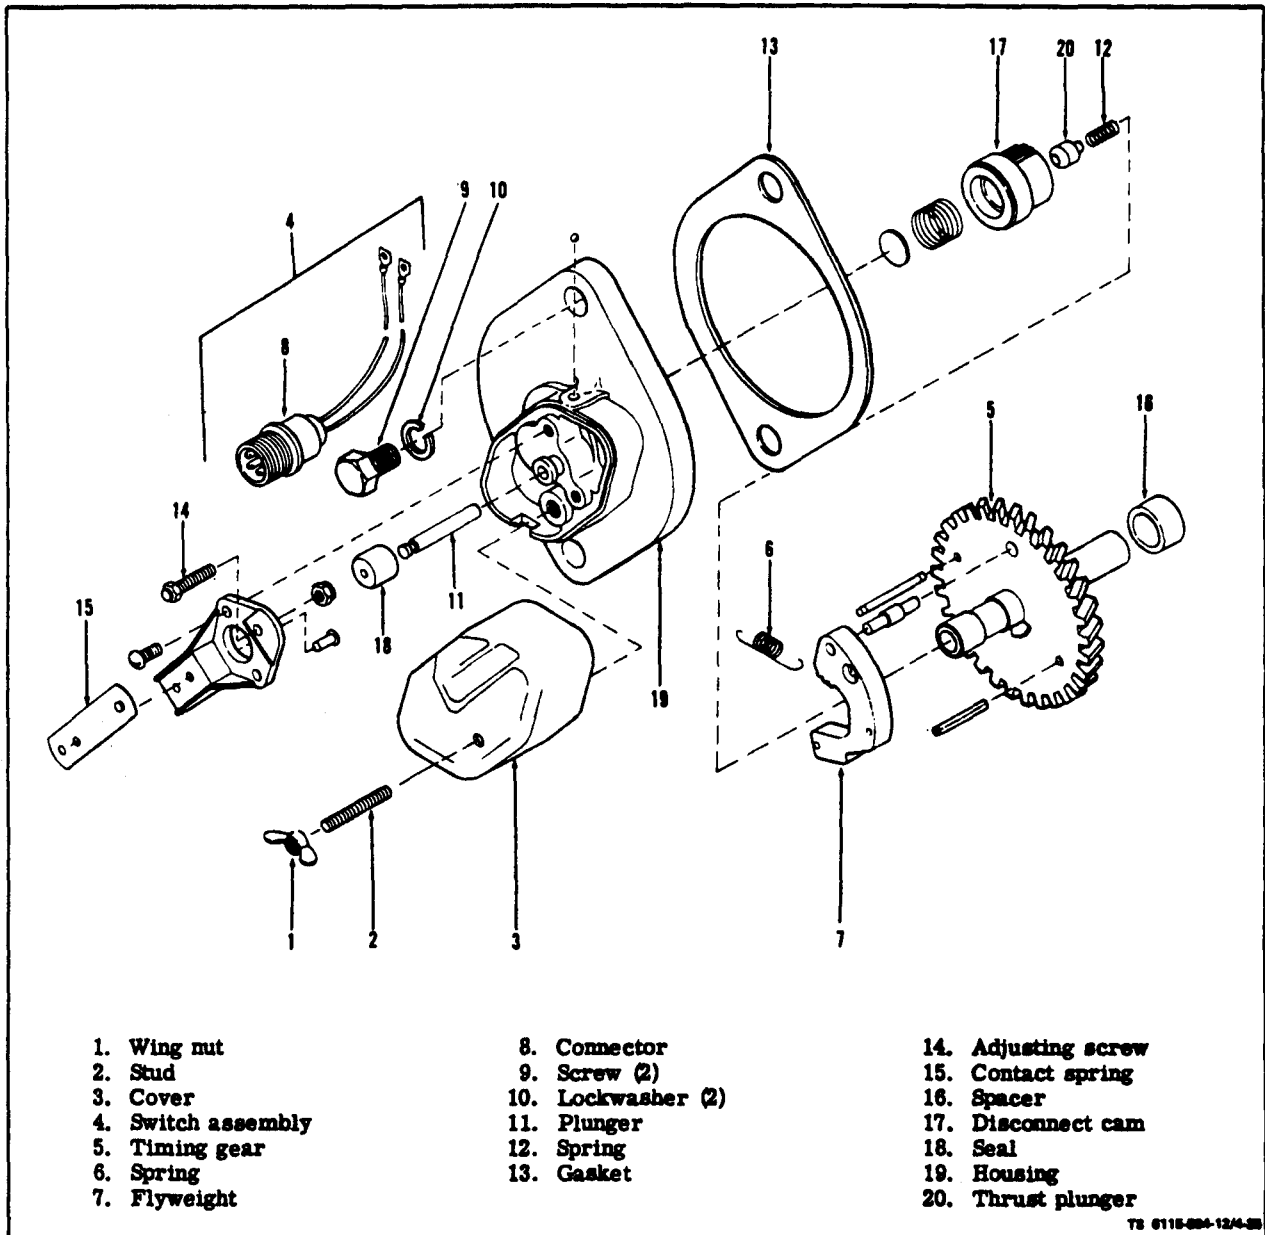
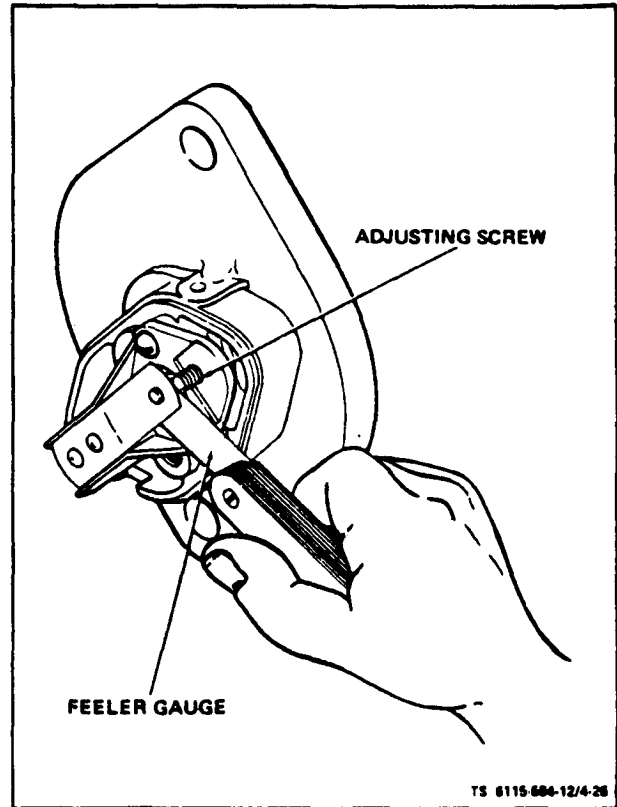
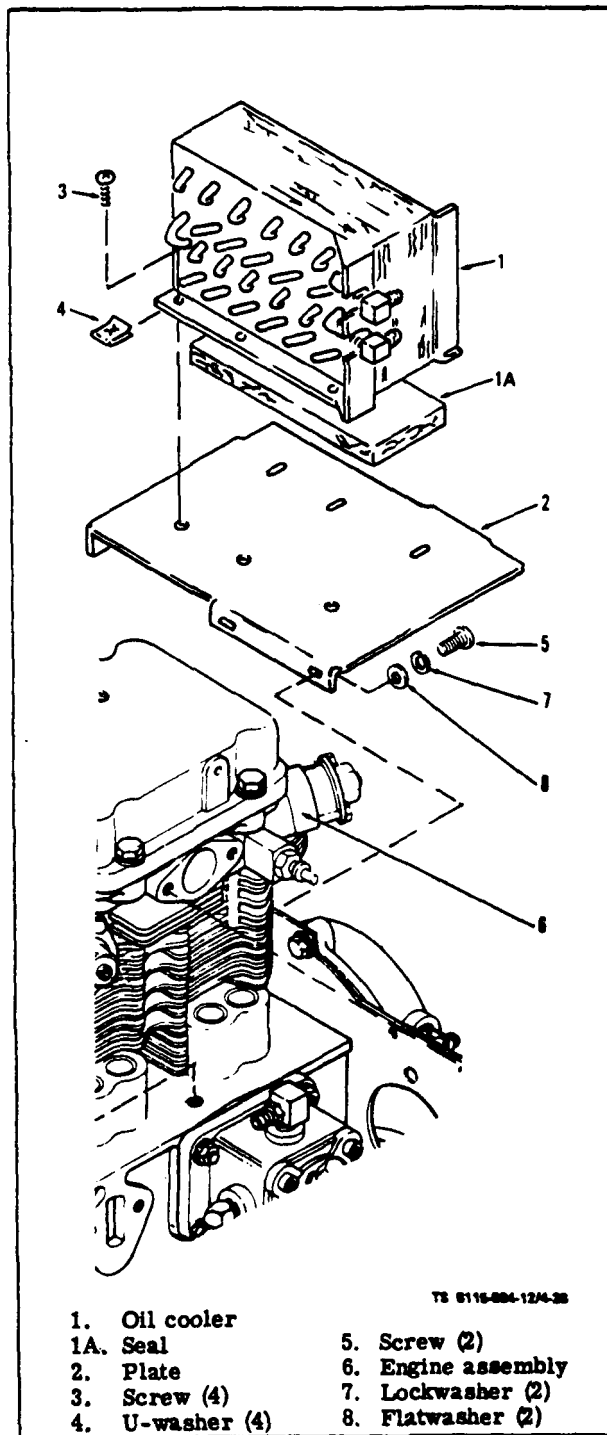
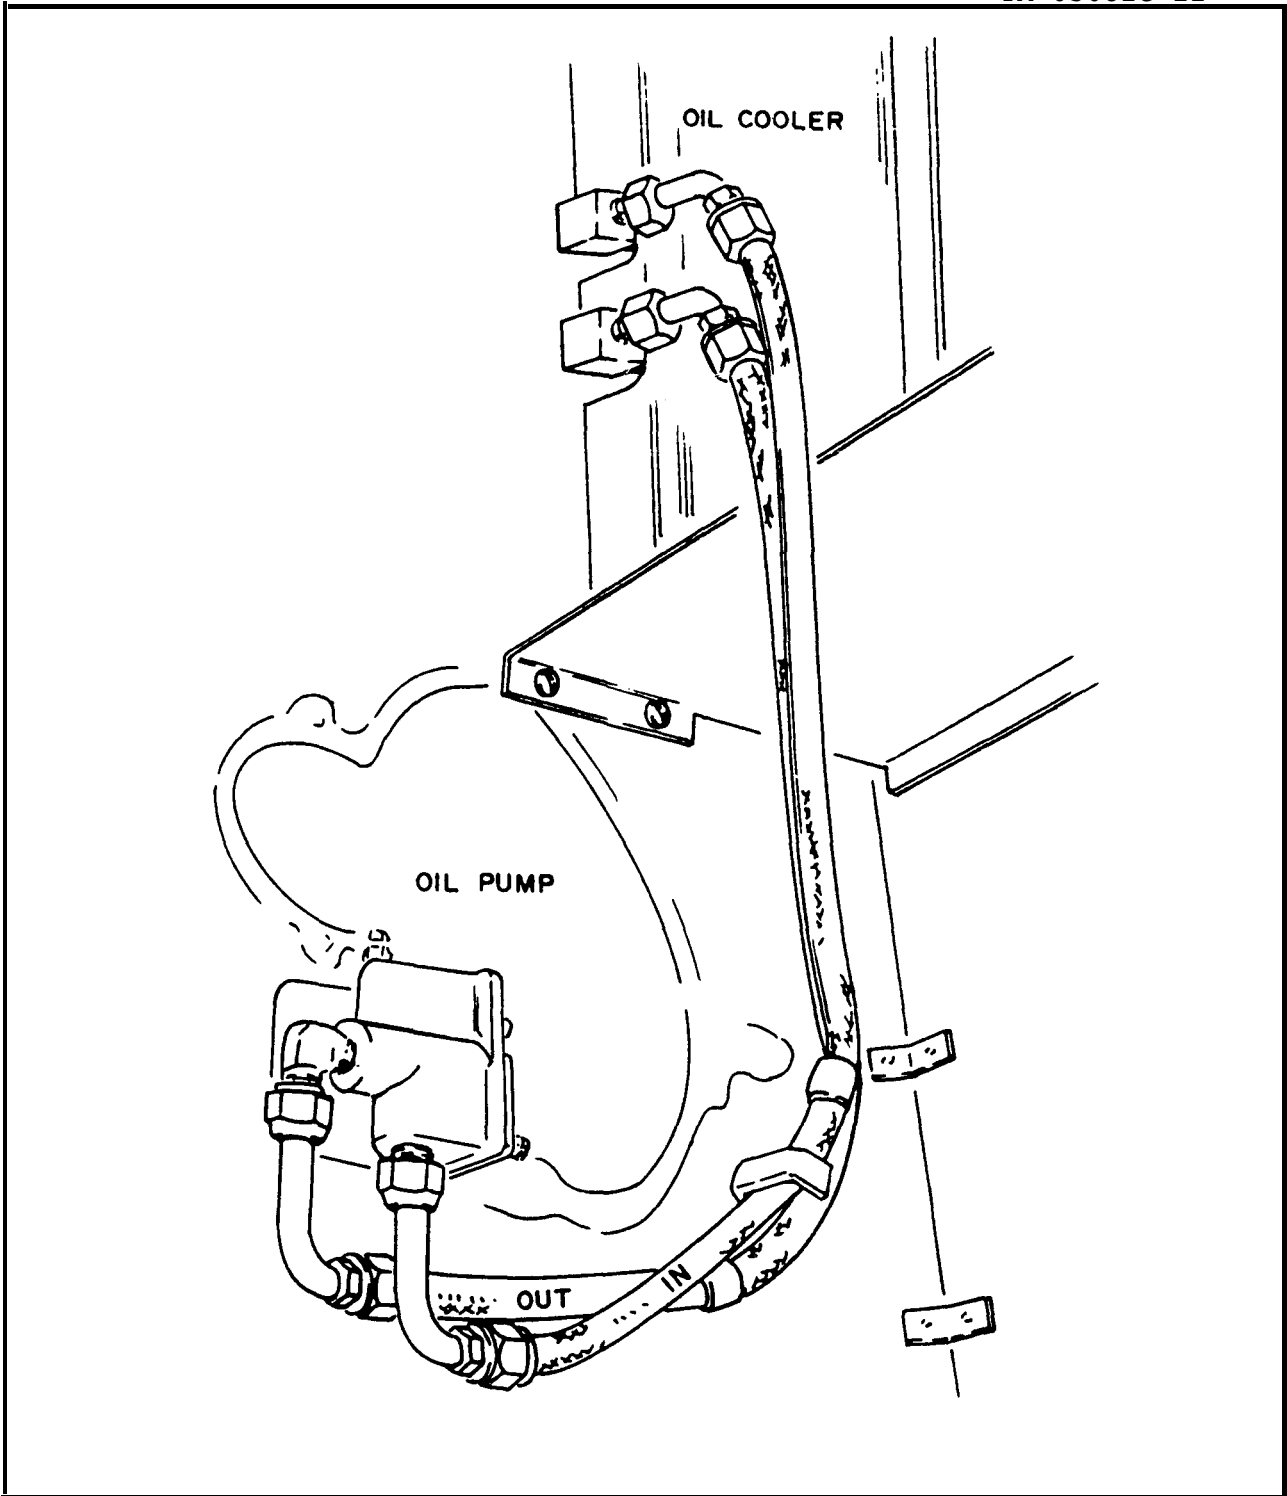

Figure 4-25. Starter Lockout Switch and Gear Assembly
Figure 4-26. Adjusting Starter Lockout Switch
Figure 4-28. Oil Cooler Assembly
Figure 4-29. Replacing Oil Cooler Hoses
a. Inspect (see figure 4-25). Disconnect negative battery cable. Remove wing nut (1) and cover (3) and inspect switch contact points between contact spring (15) and adjusting screw (14) for physical damage.
b. Test. With engine off, disconnect switch at connector (8). Using an ohmmeter, test that there is
c. Remove. Disconnect switch lead from connector (8). Remove two screw (9) and lockwashers (10) attaching switch to engine back plate. Carefully remove switch taking care not to lose thrust plunger
(20) and spring (12). Slide gear (5) out through opening in engine back plate. Clean any gasket (13) material from switch and back plate.
e. Replace. Make certain spacer (16) is on shaft and slip timing gear (5) through opening in engine back plate. Make certain that shaft seats properly in gear cover and that gear teeth are properly meshed. Place thrust plunger (20) and spring (12) in gear shaft. Slide switch and gasket (13) over shaft and attach to engine back plate with two screws (9) and lockwashers (10). Use a new gasket (13) between switch and engine back plate. Reconnect electrical connector (8).
f. Adjust. With engine stopped, remove cover retaining wing nut (1) and remove cover (3). Turn adjusting screw (14) clockwise until points open. Turn adjusting screw counterclockwise until points just close (see figure 4-26). Start engine and disconnect switch from wiring harness at connector (8, figure 4-25). Adjust adjusting screw for a 0.040 point gap. Replace cover (3) and wing nut (1). Reconnect connector (8).
a. Inspect (see figure 4-28). On ASK equipped generators, remove ASK cover assembly (para 5-3). Inspect oil cooler (1) for physical damage. Visually check for leaks where oil cooler is connected to oil hoses (figure 4-29). Check that cooler is securely fastened to mounting plate (2, figure 4-28) and that plate is securely fastened to engine. Inspect all hoses for
leaks and physical damage. Inspect seal (1A, figure 4-28) and replace if damaged. Blower housing must be removed to inspect cooler and hoses.
c. Remove. Remove blower housing. Disconnect oil cooler hoses at valve of oil filter adapter (see figure 4-29), Drain cooler into suitable container. Remove four machine screws (3, figure 4-26) and special U-shaped washers (4) attaching oil cooler (1) and oil cooler seal (1A) to mounting plate (2) and remove cooler (1). Remove and check hoses. Plug hose if not used immediately.
d. Replace. Install oil cooler (1) and oil cooler seal (1A) on mounting plate (2) and secure with screws (3) and special U-shaped washers (4). Attach oil hoses to cooler as shown in figure 4-29. Replace blower housing shown in figure 4-29. Replace blower housing, Replace any oil lost. On ASK equipped generators, replace ASK cover assembly (para 5-3).